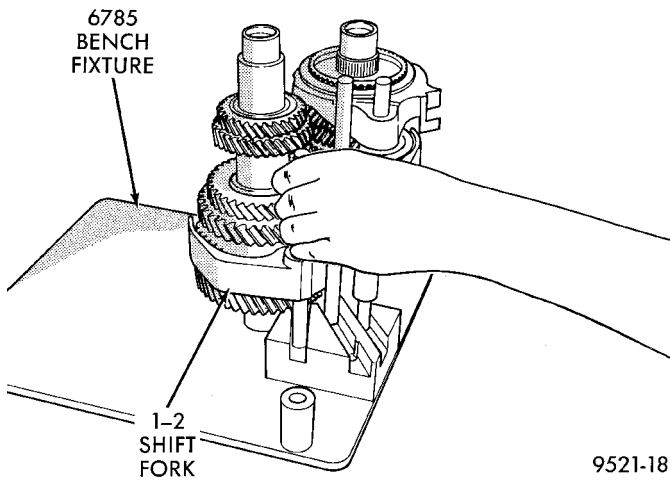

Fig. 58 Shift Rail Installation
(2) Install shift rails and forks into bench fixture (Fig. 58).